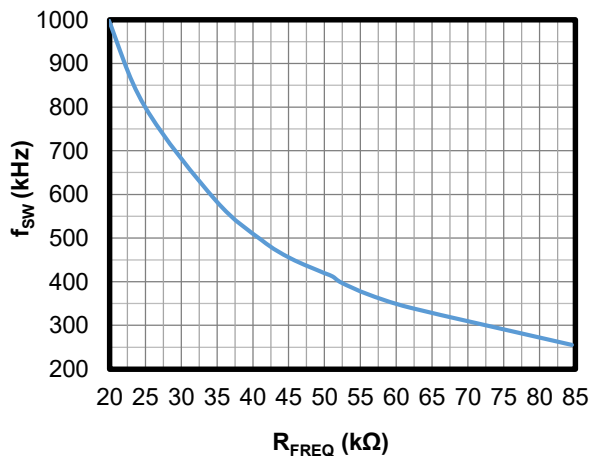

Figure 1: f_{SW} vs. R_{FREQ} ($f_{SW} = 200\text{kHz}$ to 1000kHz)
7. To use the enable (EN) function, apply a digital input to the EN pin. Drive EN above 1.02V to turn the regulator on; drive EN below 0.85V to turn it off. If the enable function is not used, EN can be connected directly to VIN.
8. The MPQ4328's switching frequency (f_{SW}) can be configured by R3, which is the FREQ pin's resistor (R_{FREQ}). R3 can be estimated based on the relationship between f_{SW} and R_{FREQ} . Figure 1 shows the relationship between f_{SW} and R_{FREQ} when f_{SW} is between 200kHz and 1000kHz.